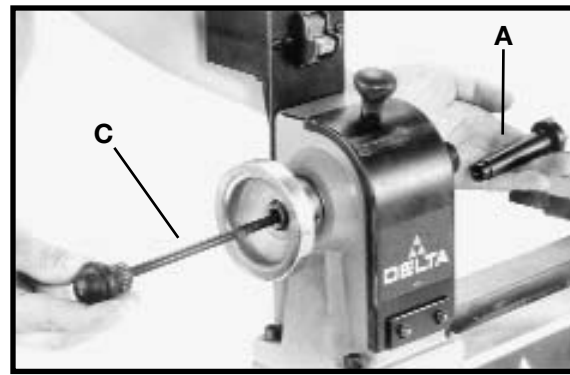

Fig. 11
2. To remove the tapered shank spur center (A) Fig. 11, from the headstock spindle, use the knockout bar (C) Fig. 11 (supplied) through the hole in the opposite end of the spindle. **NOTE:** Be careful of the sharp point on the shank spur center.